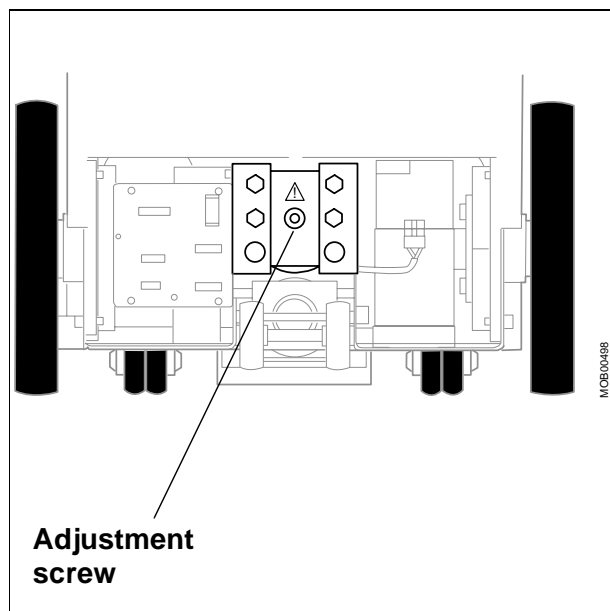

Fig. 16
- Relieve the spring tension by loosening the adjustment screw (Fig. 16).
- Tighten the adjustment screw (Fig. 16), so that the single tank is balanced.